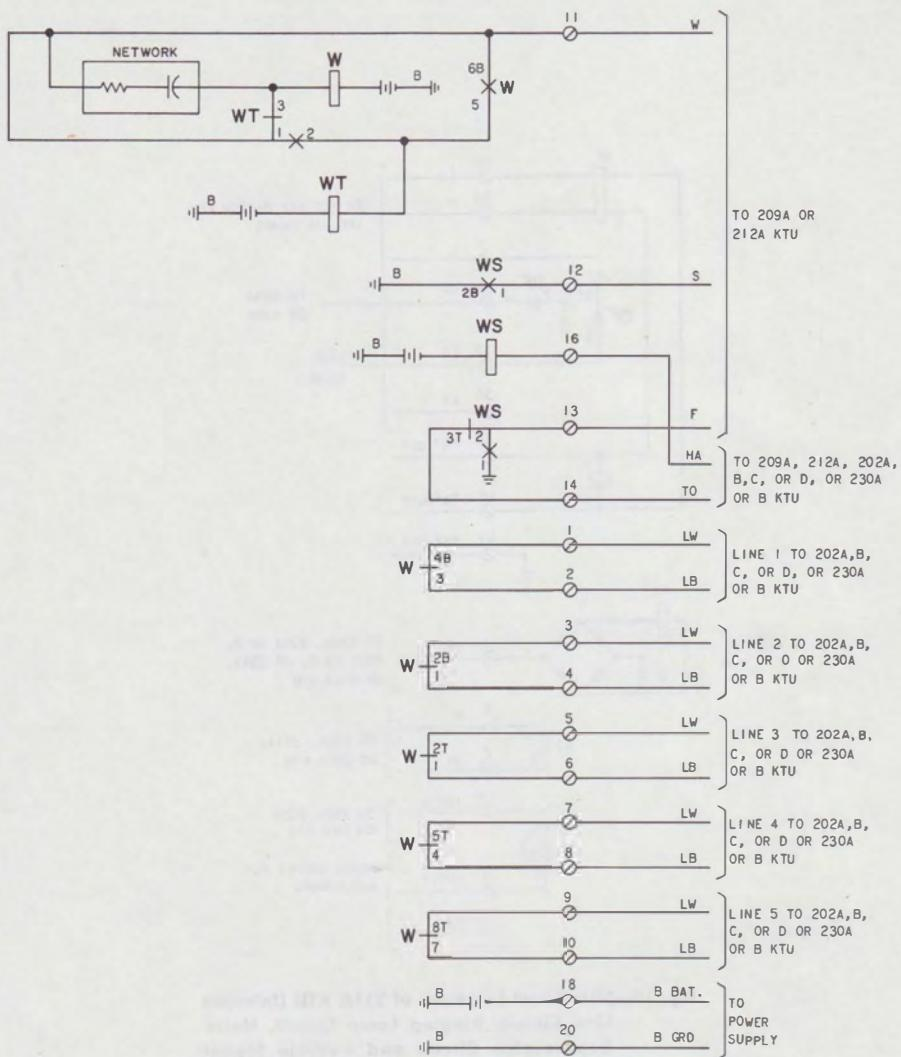

Fig. 11—♦Functional Schematic of 210A KTU (Wink Circuit)♦
**2.14** The 210A KTU (Fig. 11) is used on CO or PBX lines to provide the interruption interval for the wink option.